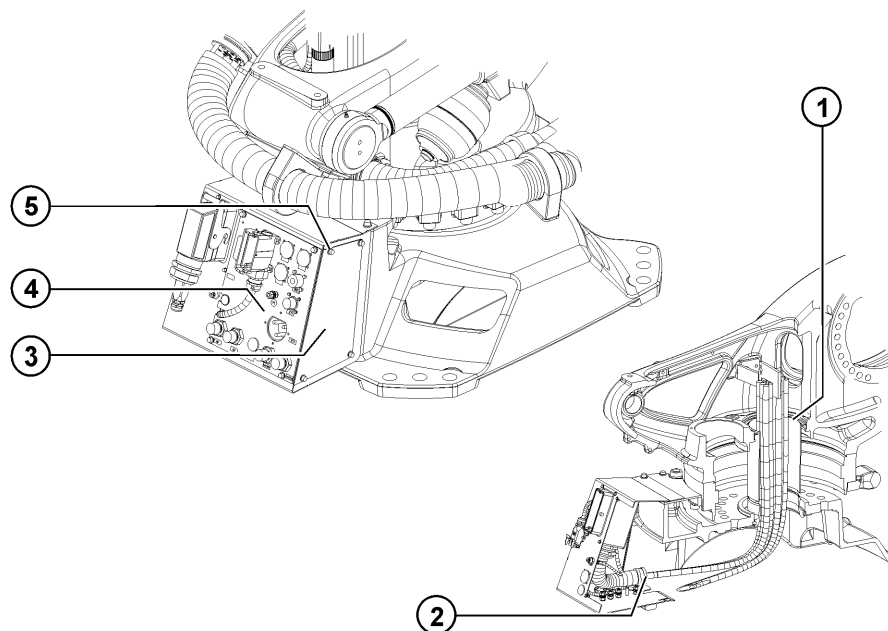

Fig. 9-9: Greasing the cable set
1. Remove 4 Allen screws with conical spring washers, and take off the cover. If necessary, interface A1 can additionally be carefully pulled back (>>> Fig. 9-9).